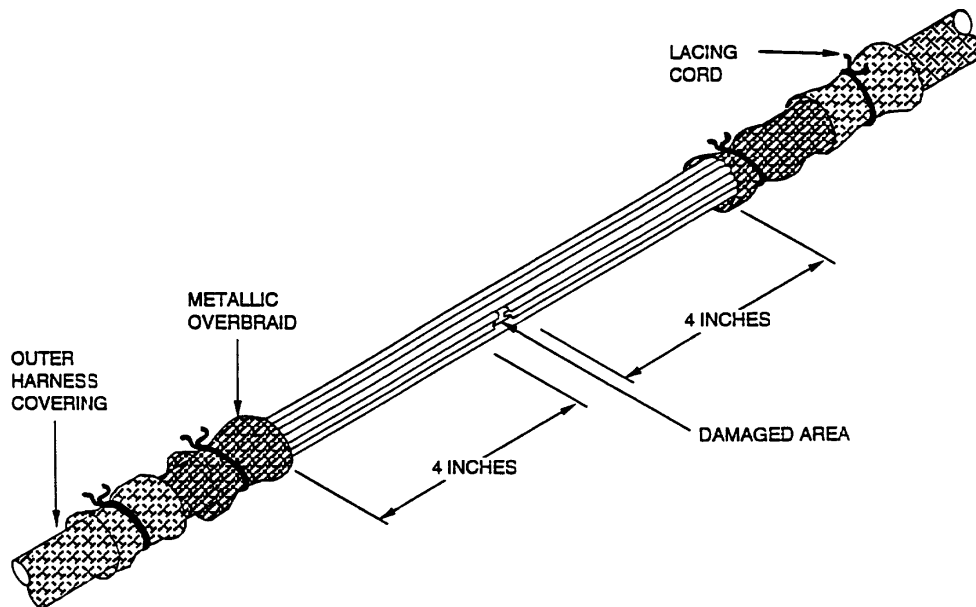

Figure 22. Harness Shield Removed
- b. Using wire cutters/scissors cut completely around metallic overbraid, pull back each side at least 4 inches from damage and secure with lacing cord. A minimum of 8 inches is required for repairs (Figure 22).